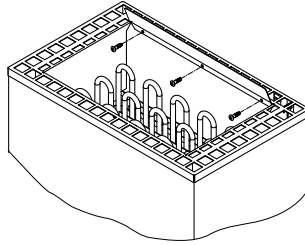

Fig. 5
- Attach the enclosed baffle as shown in Fig. 5. To do this, first release the central screw on the lid and attach it using this and two other tapping screws 4.2 x 9.5 from the poly bag.